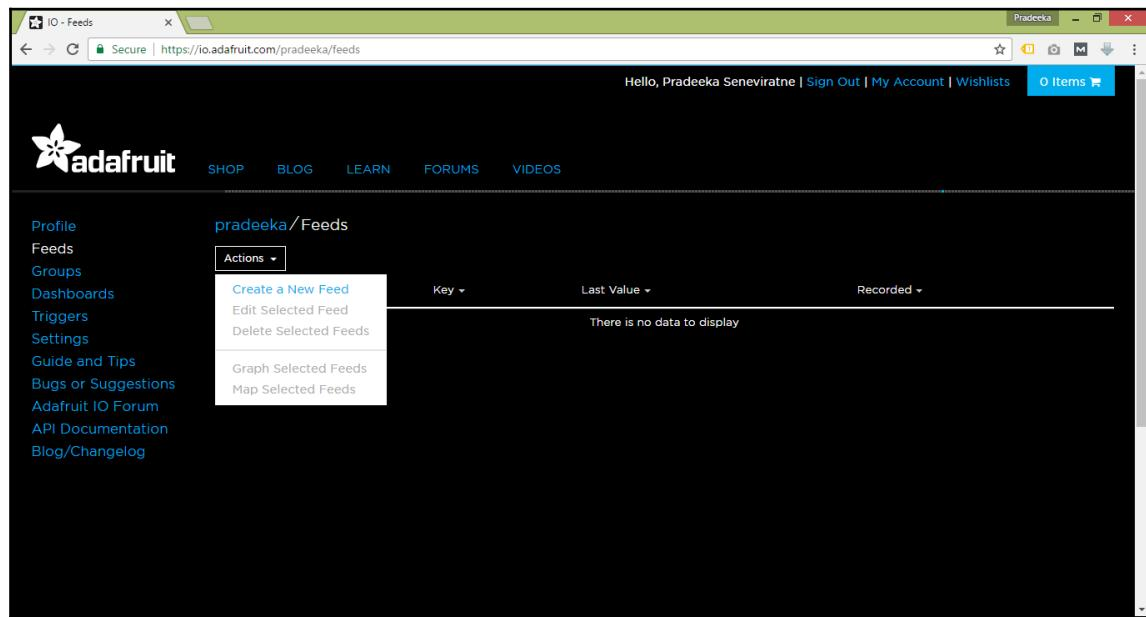

Figure 4-5: Menu selection for Create a new Feed
2. Click the **Actions** button, and from the drop-down menu, click **Create a New Feed** as shown in Figure 4-5: